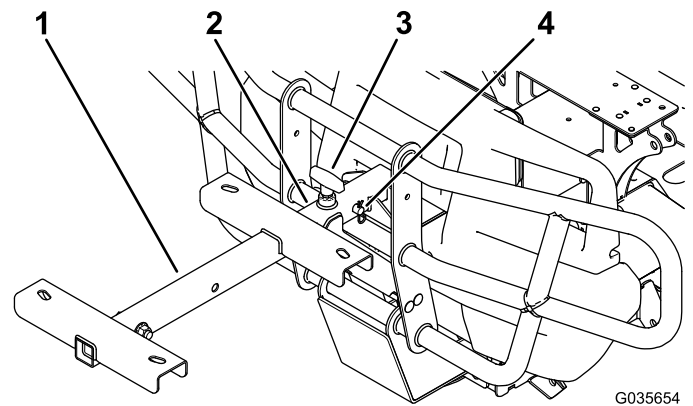

Figure 2
3. Loosen the "T" handle on the front hitch attachment (Figure 2).
4. Insert the tube mount into the front hitch attachment and secure it with the clevis pin (1/2 x 2 inches) and hairpin cotter (Figure 2).
5. Tighten the "T" handle on the front hitch attachment (Figure 2).